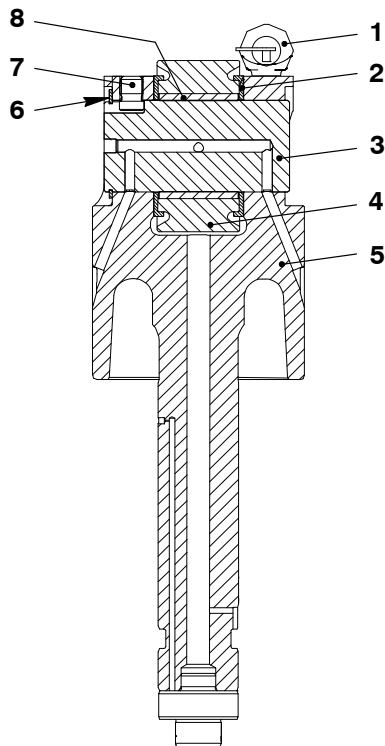

Fig. 16
- 1) Clean all parts of the guide piston (5, Fig. 16).